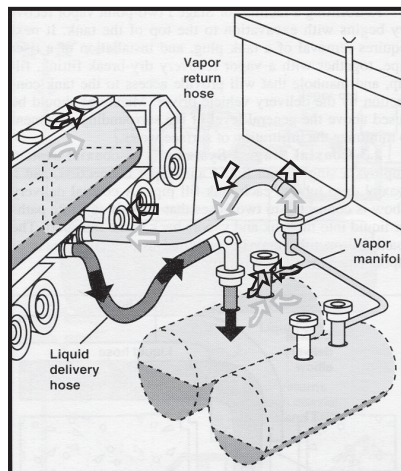

Figure 4, Vapor Recovery Fittings
2. When gasoline is unloaded from transport tanks into storage tanks, owners/operators must ensure that all vapor recovery fittings are attached and operating properly. (Figure 4)